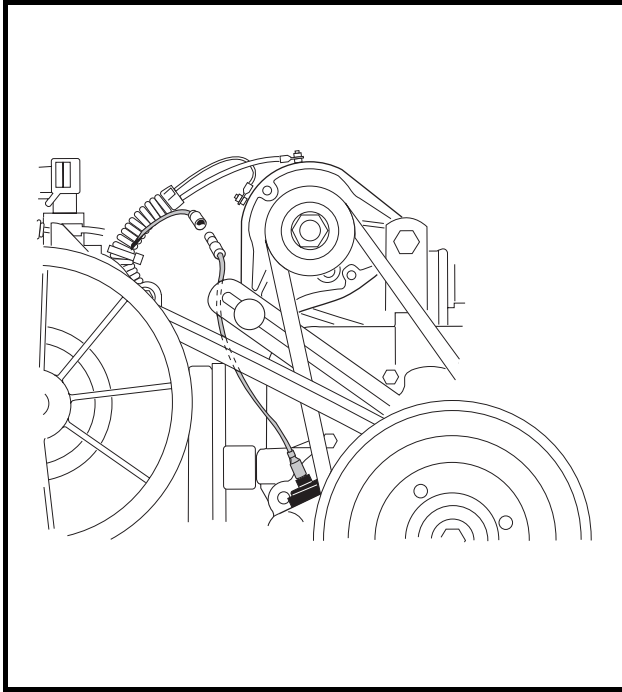

Figure 19-17 Oil Level Sensor Jumper Wire
- 4.9. Disconnect the engine oil level sensor wire (18-gauge yellow) at the connector just to the rear of the starter/generator) (**Figure 19-17, Page 19-9**).